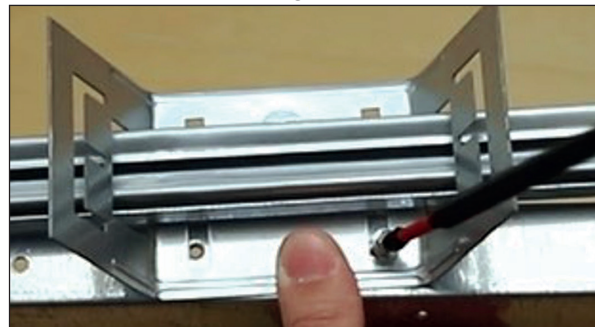

Fig. 5
- Secure hanger bars with provided hardware. [ Fig. 5 ]